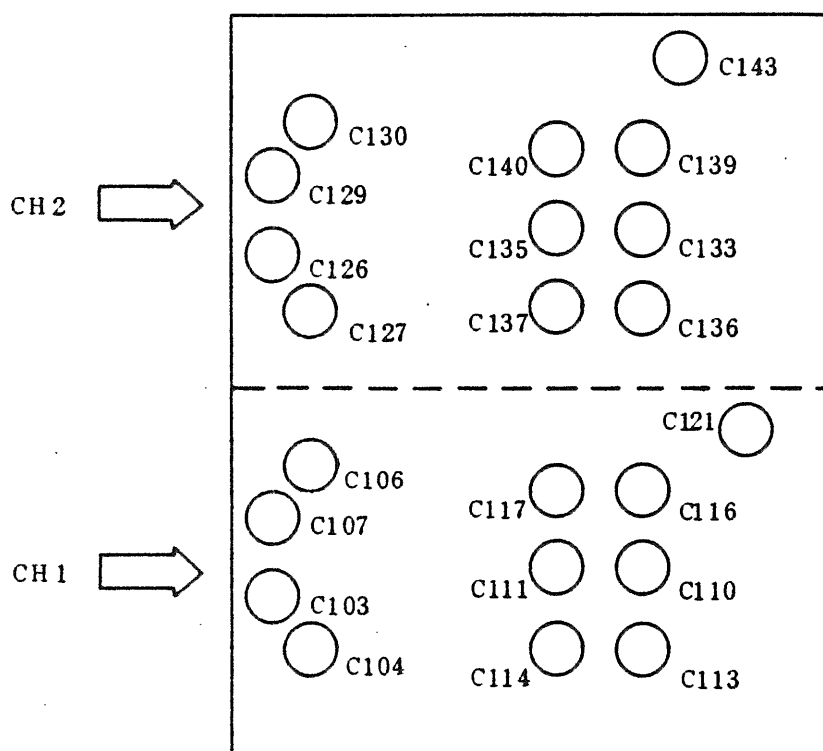

Figure 35
(3) Adjustment of pre-stage attenuator:
In a similar manner as (2) above, adjust the phase compensation capacitor and input-capacitance compensation capacitors shown in the above table for each of the ranges (0.1 V and 1 V). Locations of the trimmer capacitors are shown in Figure 35.